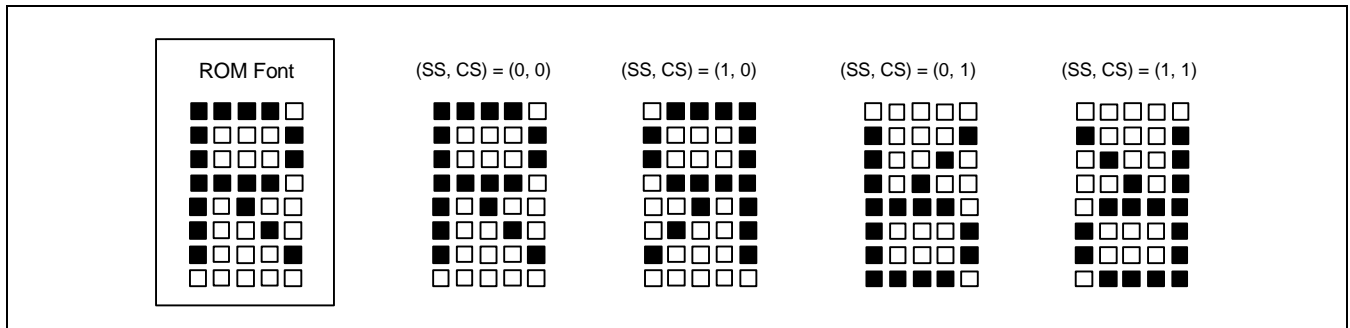

Figure 13. Example of Display according to SS and CS-bit
- (refer to table 9 and figure 13)